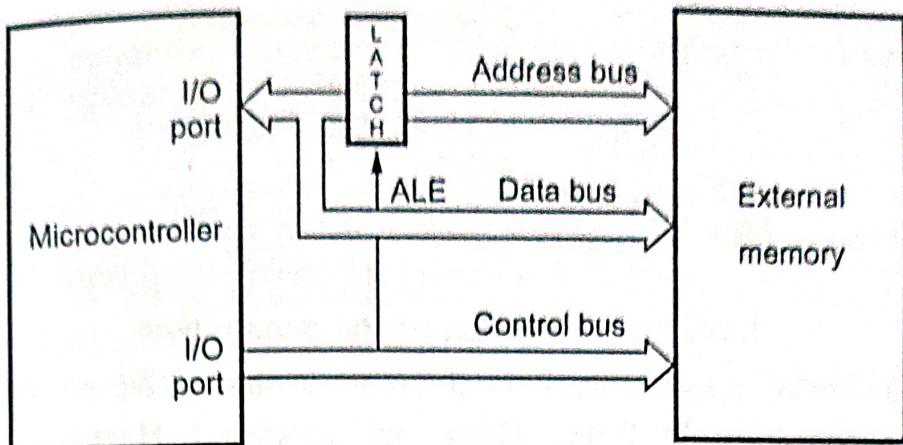

Fig. 1.1.4 Microcontroller with external memory connections
- Fig. 1.1.4 shows the microcontroller with external memory connections. As shown in the Fig. 1.1.4, many times address and data lines are multiplexed and separated by external latch and ALE signal from the microcontroller.